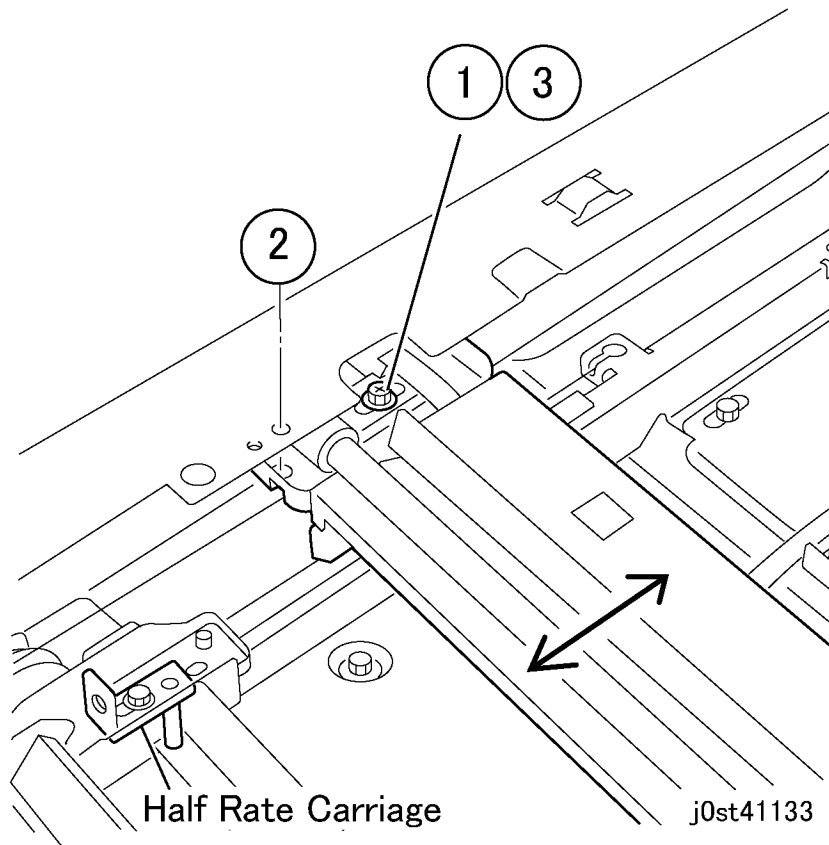

Figure 5 Aligning the Full Rate Carriage
10. Align the Full Rate Carriage (rear) (Figure 5).